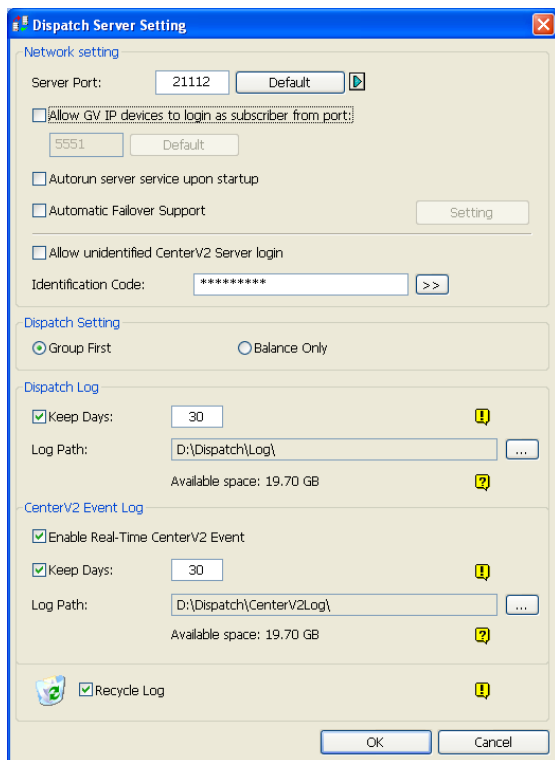

Figure 2-13
The feature lets you view the real-time events occurred on Center V2 Servers. For the application, make sure the **Enable Real-Time CenterV2 Event** option is enabled; see Figure 2-13. Then click the **Real-Time Event** button (No. 8, Figure 2-1) on the toolbar to display the following window.
4. Click the **Add** button. The Setting dialog box (Figure 2-13) appears.